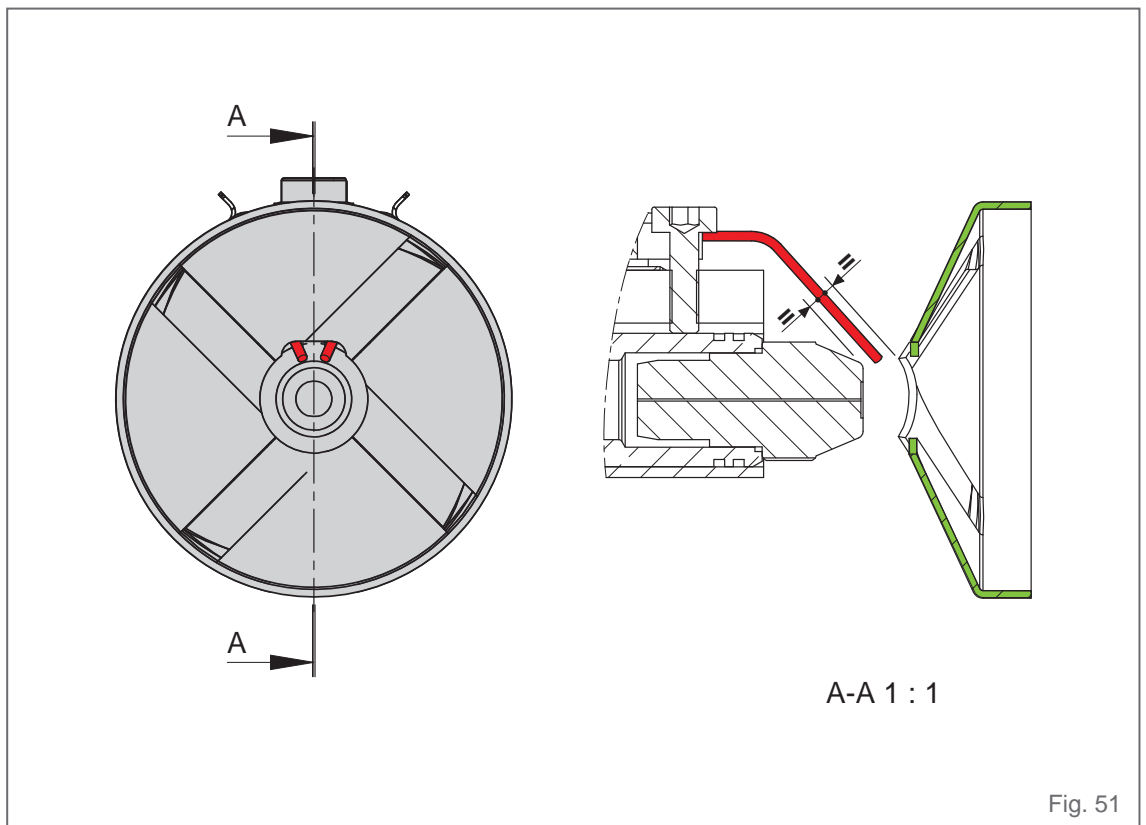

Fig. 51
- Check the position of the electrodes assuring that they are centered as shown in "Fig. 51".